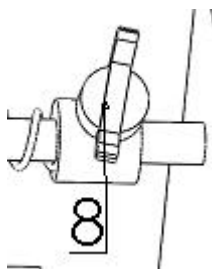
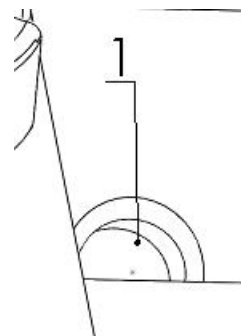

Figure 4
Figure 5
4. Loosen (8) Fig. 4 the adjusting screw on the round cutter fixing shaft to loosen the spring and allow the round cutter to slide, then loosen (1) Fig. 5 the fastening screw on the knurling cutter and move the knurling cutter axially to the foot length required for the production; loosen (2) Fig. 4 the adjusting screw on the round cutter fixing shaft to tighten the spring so that the round cutter is tightly pressed to the inner side of the knurling cutter and tighten (3) Fig. 4 the adjusting screw on the knurling cutter fixing shaft to loosen the spring and allow the knurling cutter to slide, then tighten (4) Fig. 6 the adjusting screw on the round cutter fixing shaft.